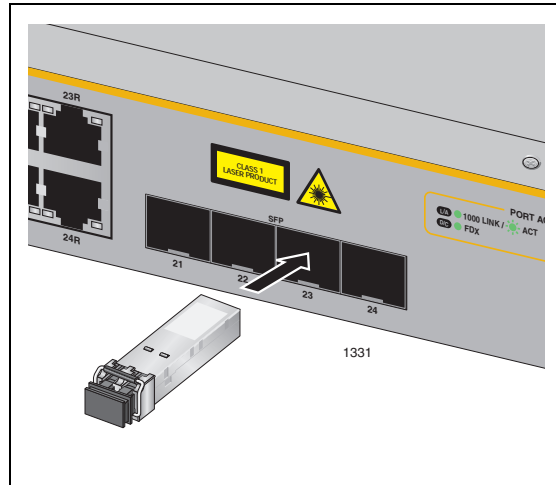

Figure 40. Installing an SFP Transceiver
4. Slide the transceiver into the slot until it clicks into place. See Figure 40.